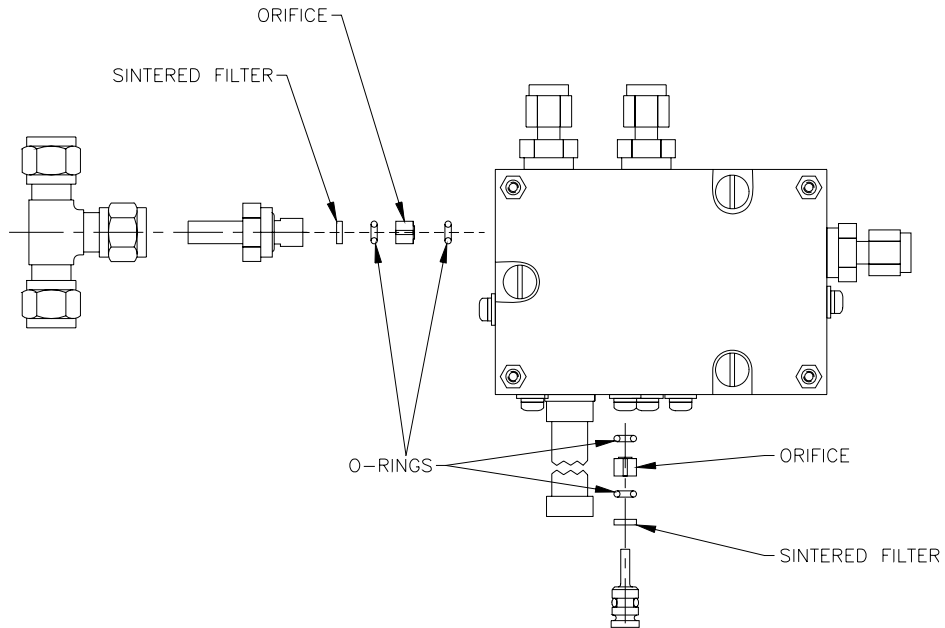

Figure 14. Sintered Filter/Orifice Removal
2. Remove the four screws securing the pressure PCA to the valve manifold and disconnect and remove the PCA. Refer to Figure 14.
4. Refer to Figure 14 for sintered filter locations in the manifold. Replace the sintered filters. If desired the orifices may be replaced, cleaned with alcohol or cleaned in an ultrasonic bath.